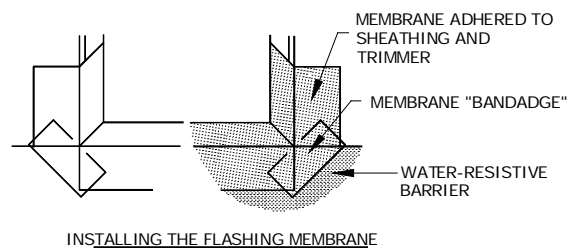

Fig 11.4
- Peel backing and install flashing as shown, making sure to lap over previously installed diagonal flashing and StuccoWrap or code-approved water resistant barrier (Fig. 11.4).